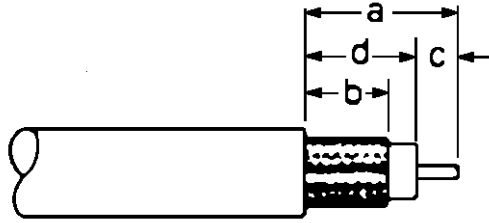

Figure 10: Stripping the coax cable jacket
- Strip cable jacket to the following dimensions (in inches), as illustrated in Figure 10: "Stripping the coax cable jacket," below: $a=0.57$, $b=0.34$, $c=0.14$, $d=0.43$. Do not nick the center conductor.